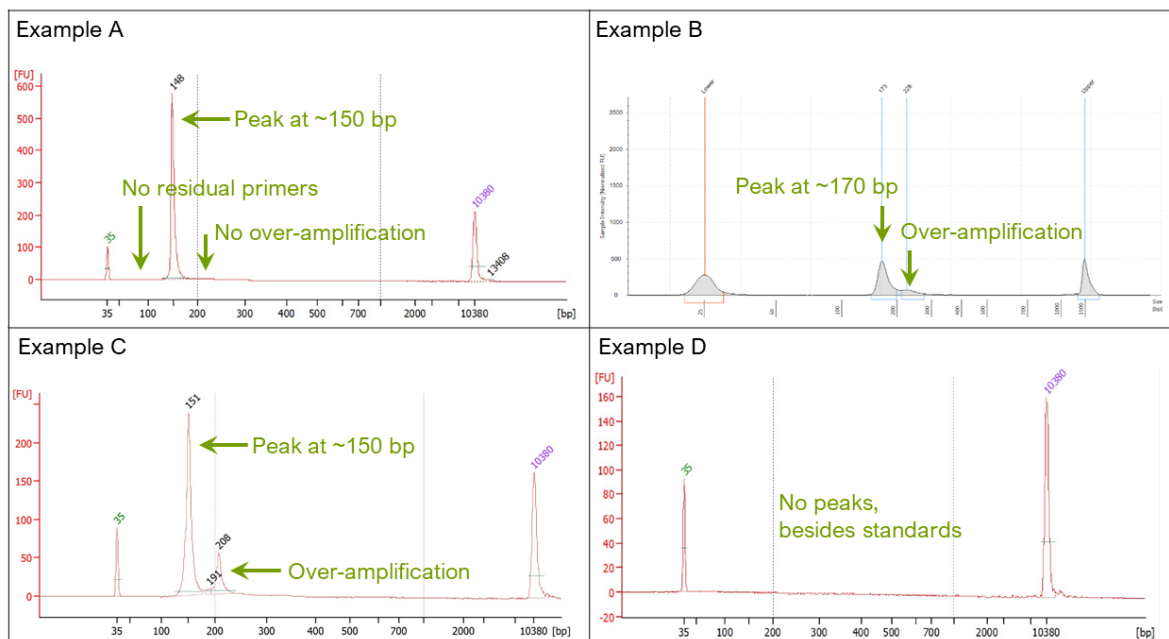

Figure 9: Library QC examples
3. Check for the expected size of the amplicons and absence of primers or high molecular weight over-amplification products (see Figure 9):